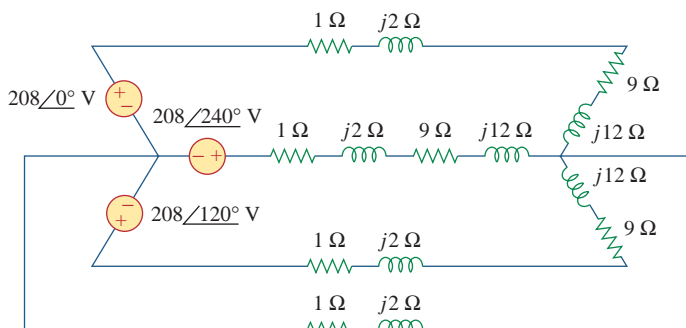

Figure 12.57
- 12.38**  Given the circuit in Fig. 12.57 below, find the total complex power absorbed by the load.